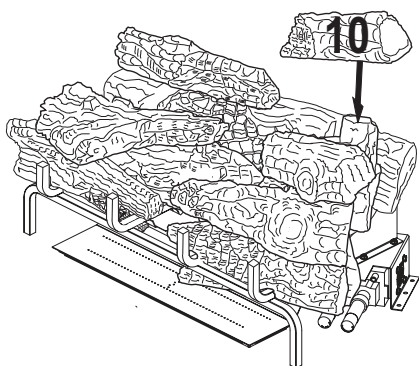

Figure 31 - Installing Log # 10
- Place the right rear top log (#10) on top of the right rear chunk log (#7) as shown in Figure 31, page 19. Match the rectangular peg on the top of the right rear chunk log (#7) with the rectangular hole on the bottom of the right rear top log (#10).